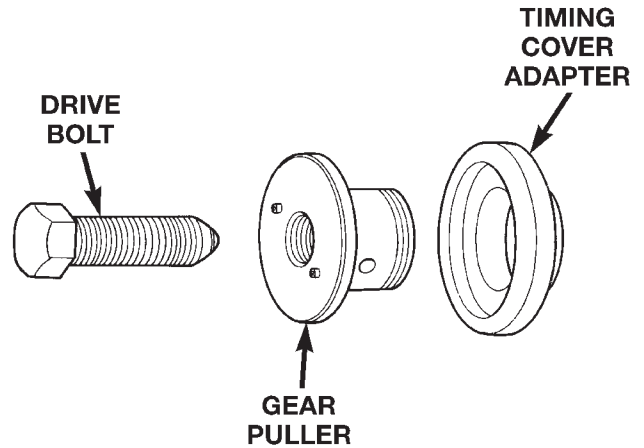

Fig. 30 Pump Gear Tools
(18) A special 3-piece gear removal tool set VM# 1003 (Fig. 30) must be used to remove the injection pump drive gear from the pump shaft.